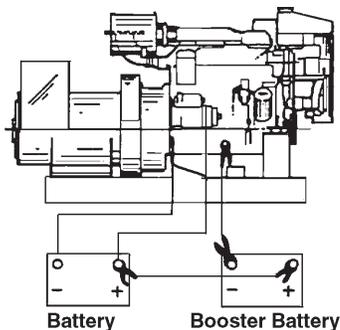

Figure 19:
3. First, connect positive (+) terminal of booster battery to positive (+) terminal of main battery. Then, connect negative (-) terminal of booster battery to ground on the engine block (see Figure 19).